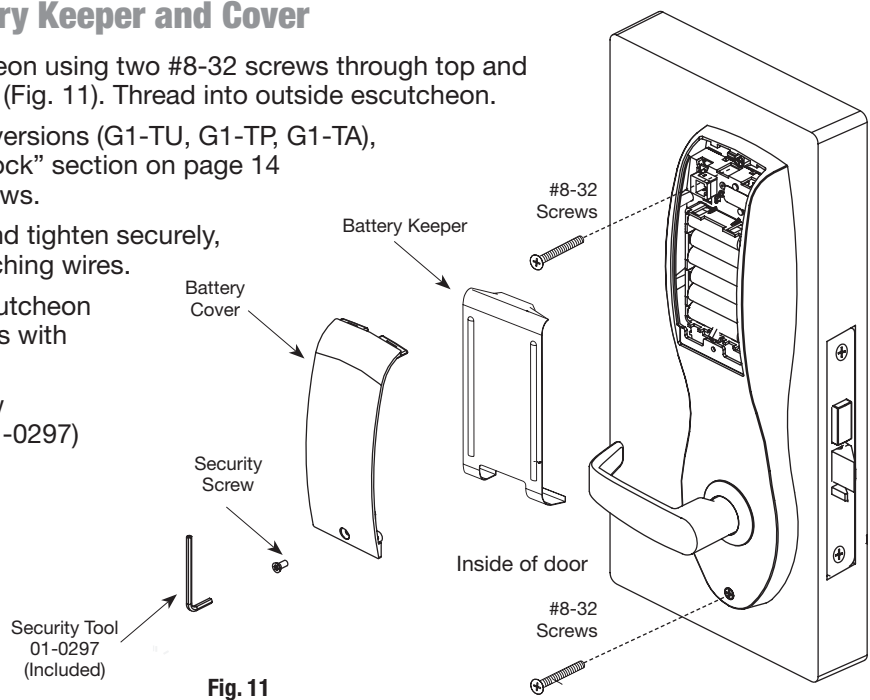

Fig. 11
1. Secure the inside escutcheon using two #8-32 screws through top and bottom of the escutcheon (Fig. 11). Thread into outside escutcheon.
4. Secure with security screw using security tool (P/N 01-0297) provided (Fig. 11).